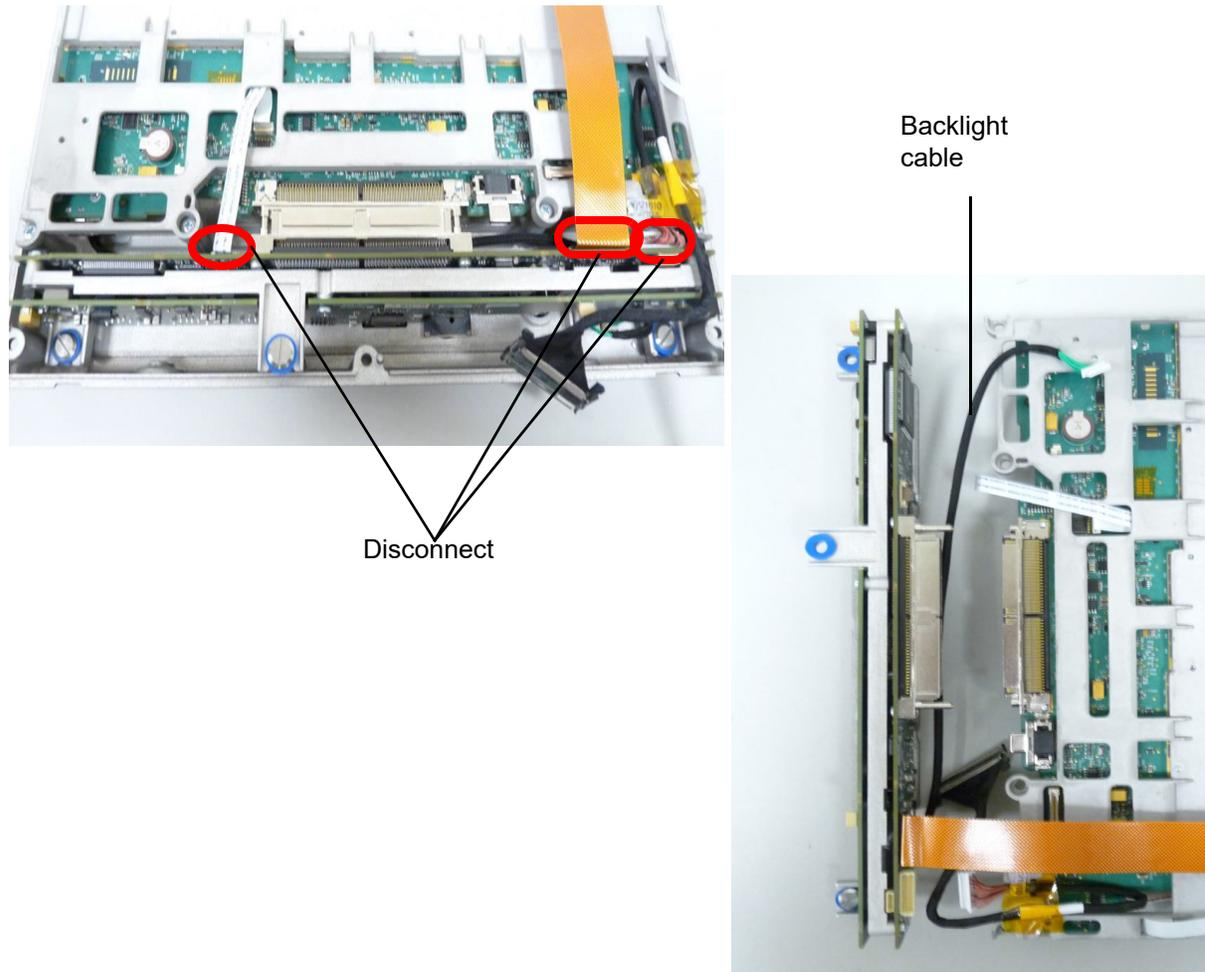

Figure 6.11 Internal Mini-Dock Removal
- 1 Disconnect small flex cable, large flex cable and video cable from Internal Mini-Dock per Figure 6.11.
- 3 Install Internal Mini-Dock on Main PCBA and connect 3 cables in Figure 6.11